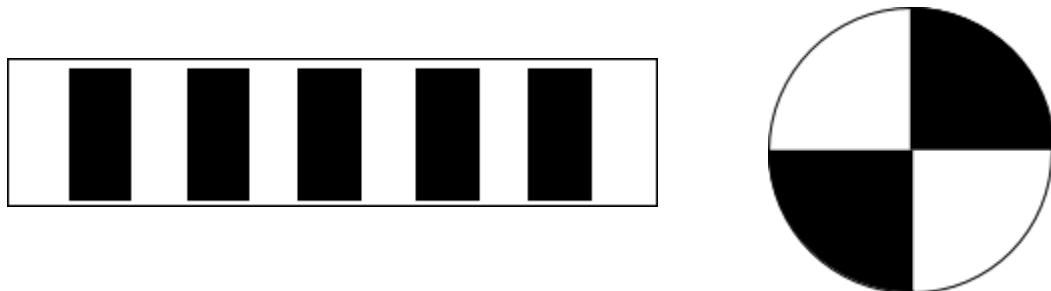

Fig 3. Sample test patterns
- 2) Get a piece of white paper. Using a dark pen or a pencil, create either patterns (ex: linear or circular test pattern similar to the ones shown in Fig 3). Purposeful creative patterns are welcomed. You can also print the pattern if a printer is available. Move the test pattern at a *fixed distance* from the sensor and observe that you can detect/count the transitions between black and white regions.